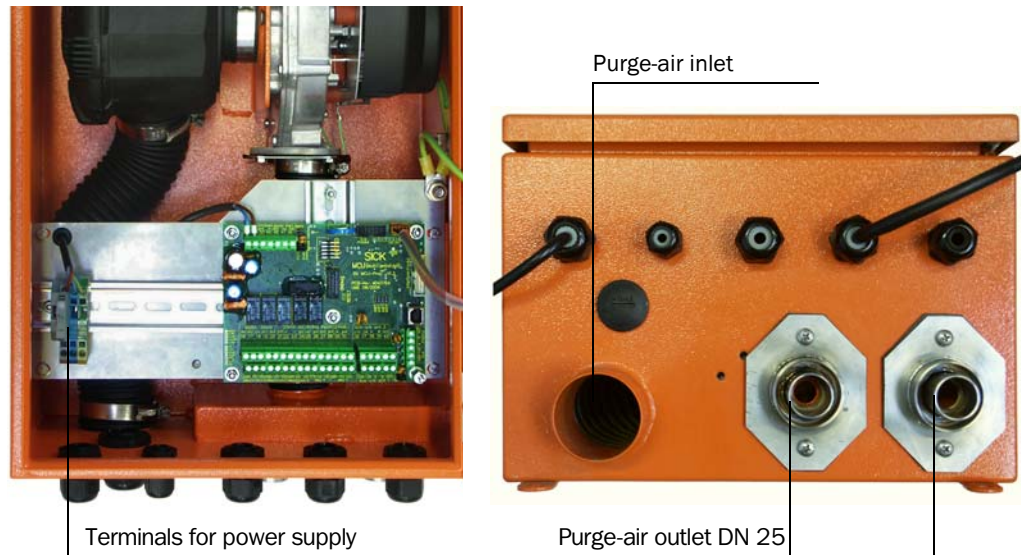

Fig. 3.18: Underside of control unit with integrated purge-air supply
- ▶ Connect the purge-air hose DN 25 to the purge-air outlet on the underside of the MCU-P (see **Fig. 3.18**) and secure it with a tightening strap. The purge-air outlet in the middle must be adjusted as displayed (correct if necessary).